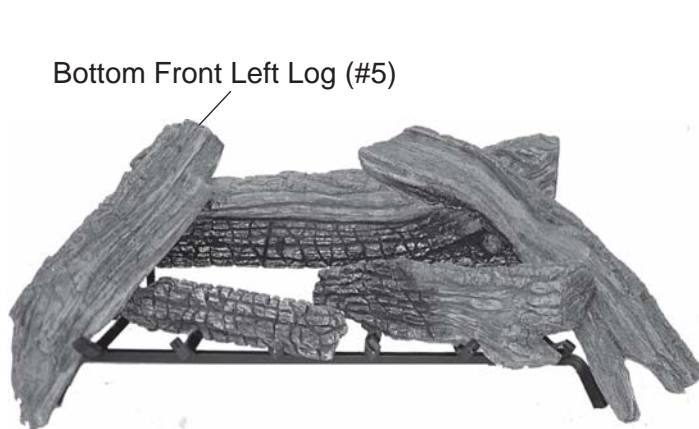

Figure 88 - Installing Bottom Front Left Log (#5)
6. Rest Bottom Left Log #5 on back log #1 and to the outside of the left grate prong. See Figure 88.